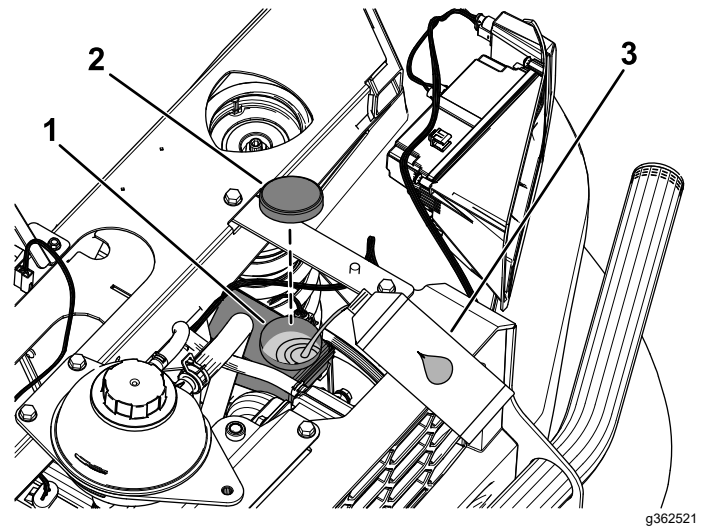

Figure 89
4. Raise the hood to access to the master brake cylinder and reservoir (Figure 89).
- A. Clean the area around the reservoir cap and remove the cap (Figure 89).
- C. Install the reservoir cap (Figure 89).